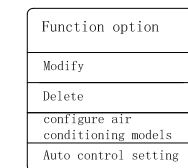
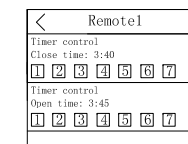

Fig.7
Fig.8
- a.Press and hold the remote ID to access a pop-up box as Fig. 7. Set up auto control setting, and check the preset automatic control task as Fig. 8.